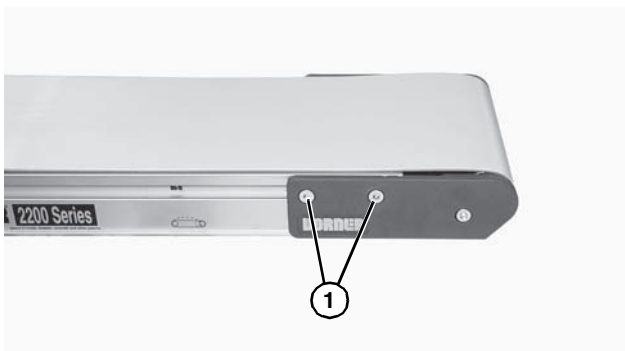

Figure 48
1. On one side of the conveyor, loosen two (2) head plate fastening screws (Figure 48, item 1) and remove.